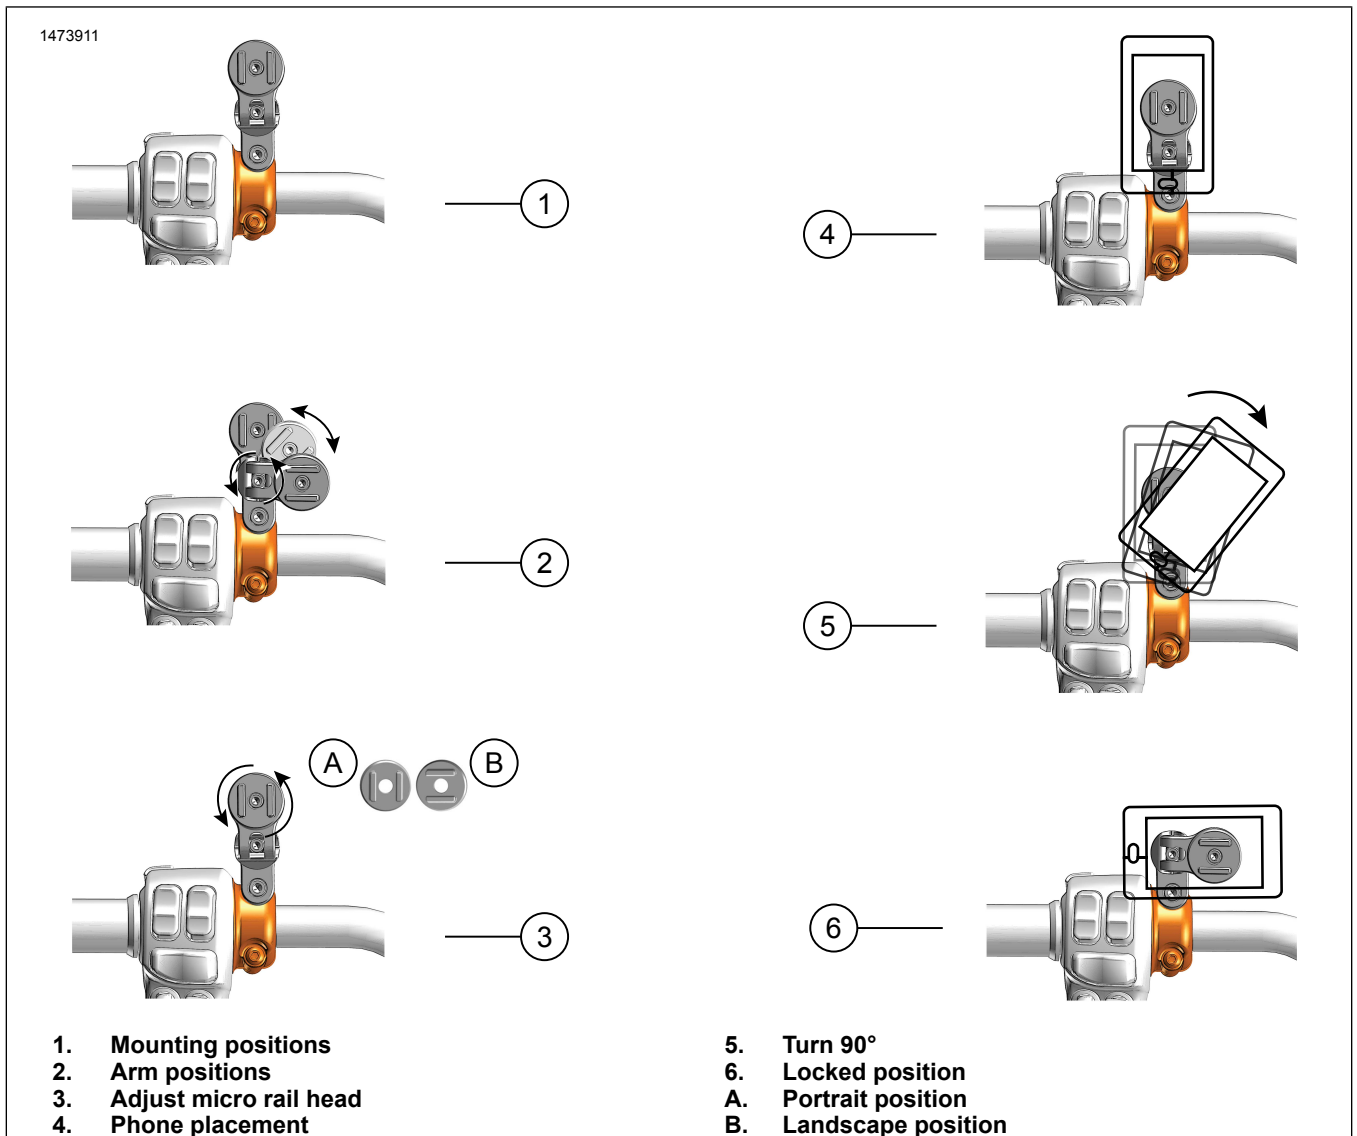

Figure 5. Phone Mount and Positioning Options
1. Figure 5 Install phone to mount.